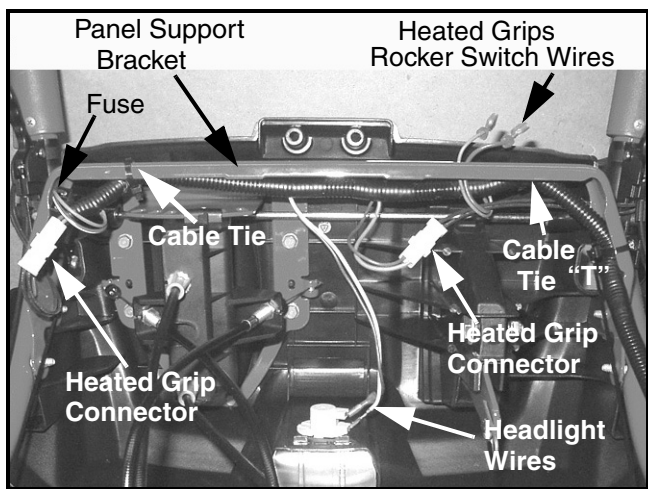

FIGURE 5
10. Route the harness up the right handle and then along the inside of the panel support bracket. Ensure that no part of any wire can come in contact with moving parts. See Figure 5.
11. Use Cable Ties, Item 2, to secure harness to the right hand handle and panel support bracket. One tie should go through the left and right side holes in the panel support bracket. See Figures 5 and 6.
15. Route the two wires (red and blue) for the heated hand grip switch through the rectangular hole in the panel support bracket. See Figure 5.
18. Install fuse holder into the hole on the left side of the metal panel support bracket. See Figure 5.